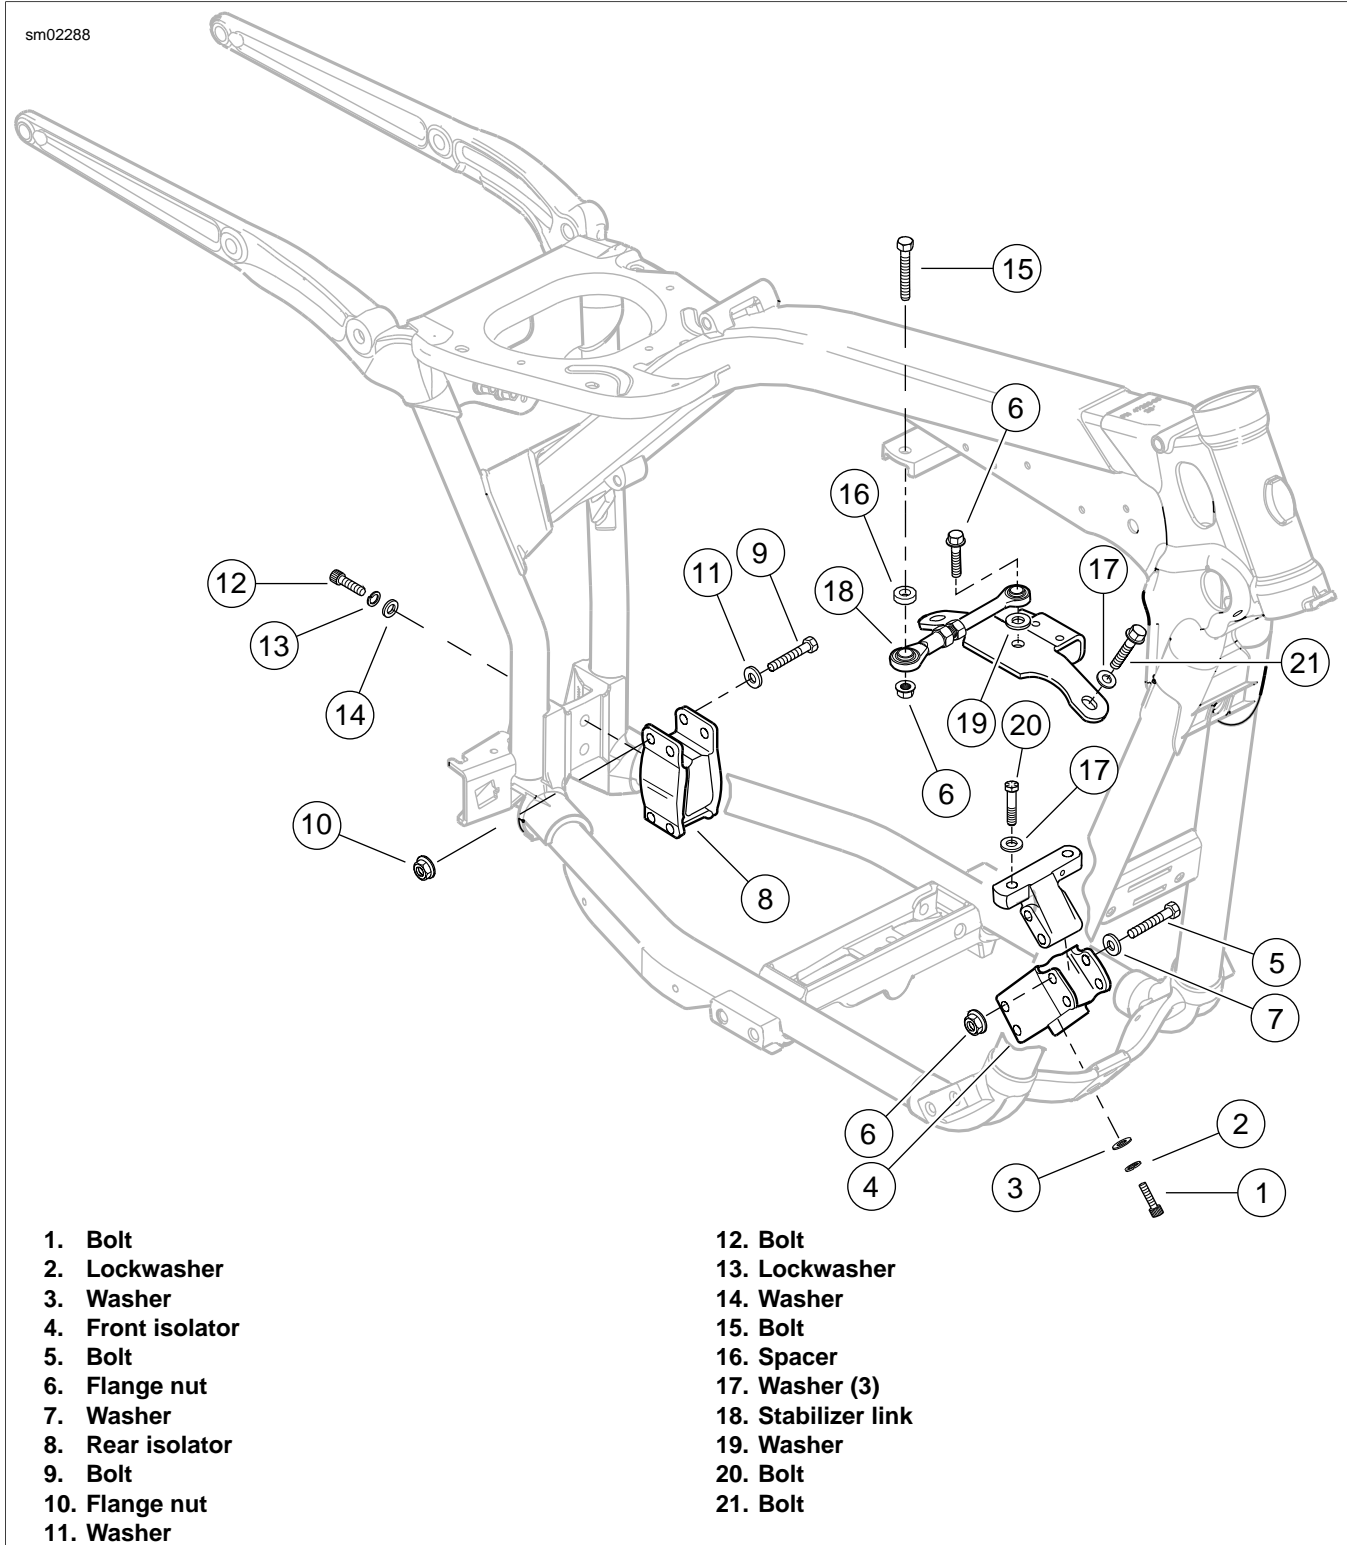

Figure 1-49. Engine Mounts
1. See Figure 1-49. Check for cracks or tears in the isolator rubber.